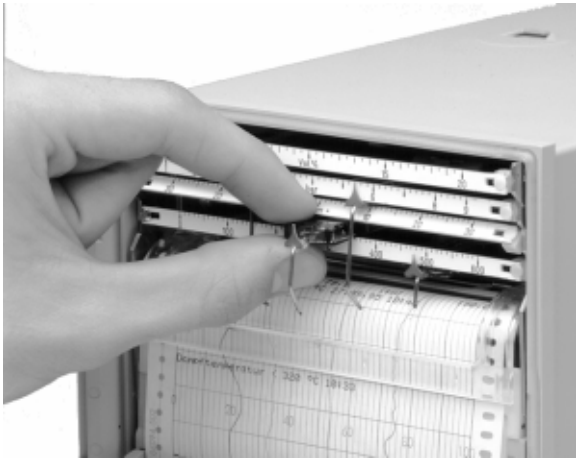

Figure 8 Installing the fiber pen insert
2. Install the fiber pen insert / print insert according to figure 8.